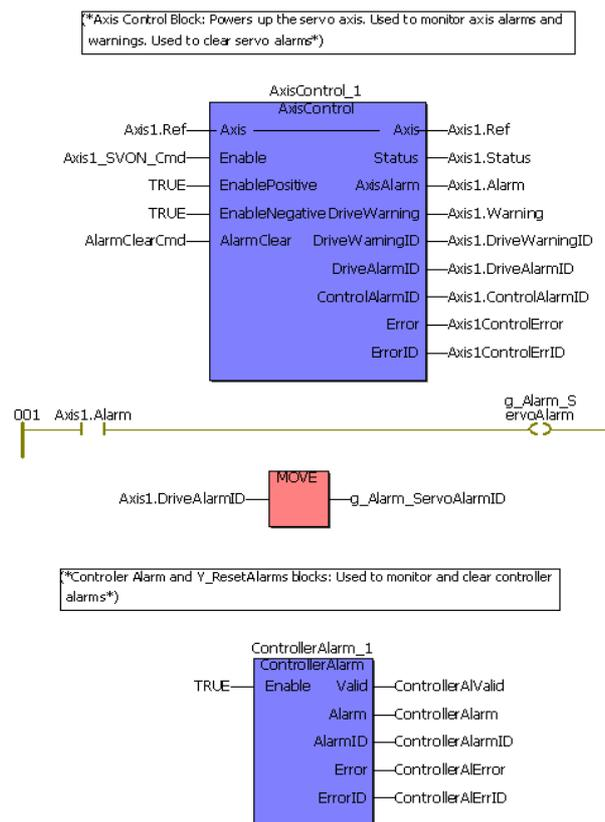

Figure 15: Power up and alarm monitoring
- 2) Controller: Any controller specific alarms can be accessed using the Controller alarm function block (figure 15) from the PLCopen toolbox. YClearAlarms can be used to clear controller specific alarms
Sample code that can be followed to initiate an alarm clear request is shown below. AlarmClearCmd commands a controller alarm clear on 'Y_ClearAlarms' and an axis alarm clear through 'AxisControl' shown in figure 15.